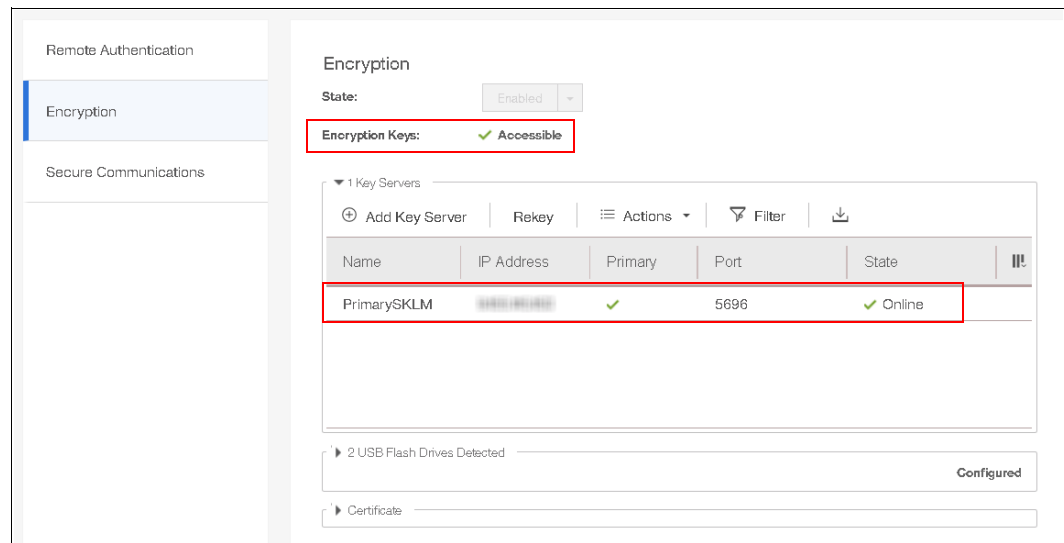

Figure 7-60 Encryption overview that confirms the SKLM is in good state
24. The FlashSystem 900 encryption window shows the SKLM key server with two green check marks, as shown in Figure 7-60.
You can schedule automatic replication or complete the process manually by using IBM Security Key Lifecycle Manager. The process to add key servers is similar to the process that is used to set up the primary key server (see Figure 7-60 on page 270).